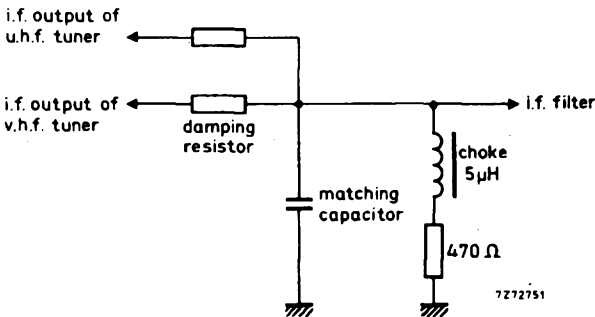

Fig. 12.
The tuner needs a d.c. path from the i.f. output terminal (T) to earth, preferably via a choke of approx. 5 μ H outside the tuner (Fig. 12). Where the tuner is used in combination with a u.h.f. tuner, this choke can be common for both tuners; a resistor in series with the choke can make ineffective the i.f. output circuit of the switched off tuner. For damping the i.f. output impedance of the tuner to the i.f. amplifier, a series resistor and a parallel capacitor as shown in Fig. 12 should be used. (During v.h.f. operation the voltage across the 470 Ω resistor is 1 to 1,2 V.)